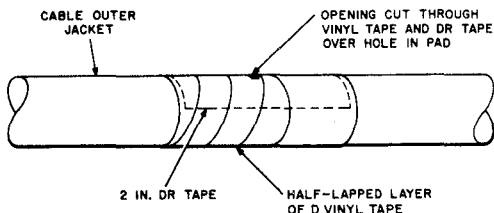
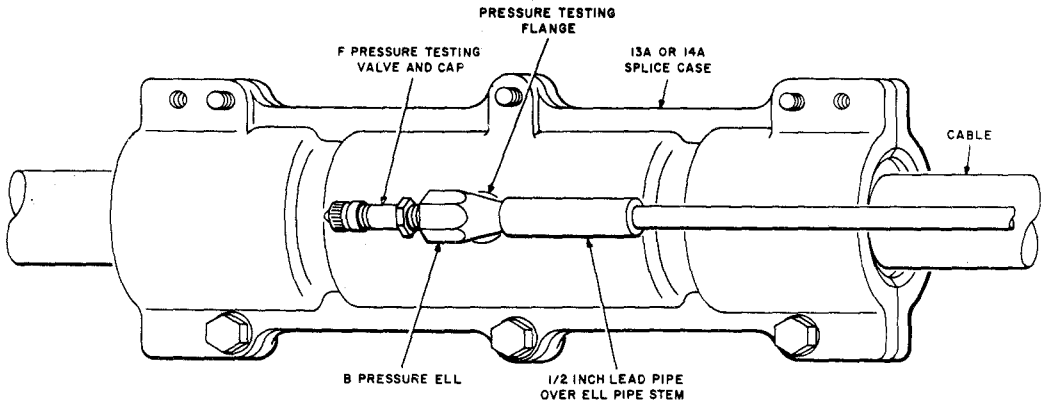

Fig. 15—Insulating Pad Wrapped
Fig. 16—Splice Case With B Pressure E11 and F Pressure Testing Valve Installed
(8) Cut a strip of 2-inch DR tape to cover this area. Cut a small hole in the DR tape. Place this strip of DR tape so the hole coincides with the 1/4-inch hole in the pad and press firmly in place.
(9) Place an orange stick into the hole and leave the stick in place; then, wrap with a half-lapped layer of vinyl tape (Fig. 15)
(10) Follow the procedure outlined in paragraph 4.04 (6) through (13) to complete the installation.
(1) Follow the procedures outlined in paragraph 4.05 (1) through (8) to prepare the sheath for splice case installation.
(2) Place an orange stick into the hole; then, wrap with a half-lapped layer of vinyl tape (Fig. 15). Remove the orange stick after wrapping.
(3) Place the splice case on the cable as described in Section 633-470-100.
(4) To place the B pressure ell in the 13A or 14A splice case, coat the threads of the ell with teflon pipe sealing tape. Screw the ell into the pressure testing flange on the splice case. Before pressurizing the splice case, solder the lead pipe to the ell pipe stem and place the F pressure testing valve in the ell (Fig. 16).
- (1) Follow the procedures outlined in paragraph 4.05 (1) through (8) to prepare the sheath for split sleeve installation.
- (2) Place an orange stick into the hole; then, wrap with a half-lapped layer of vinyl tape (Fig. 15). Remove the orange stick after wrapping.
- (3) Place the split sleeve and complete the installation as described in paragraph 4.08 (4) through (7).